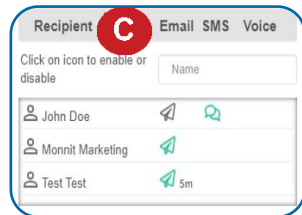

Figure 31
- C.** Recipient list identifies who will receive the notification. See Figure 31.